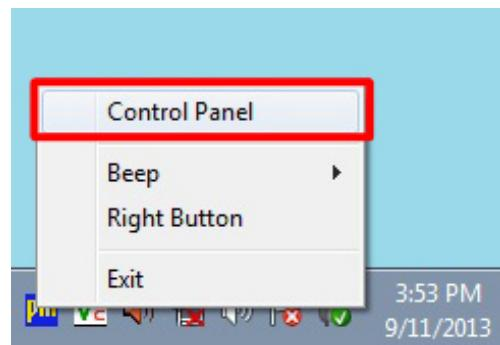

Figure 3-30: Select Control Panel
Step 2: Click **Control Panel** from the menu (Figure 3-30).